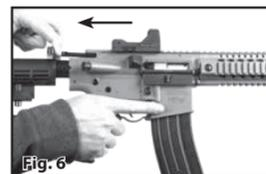

Fig. 6
- Pull the charging handle all the way to the rear and return forward (Fig. 6).